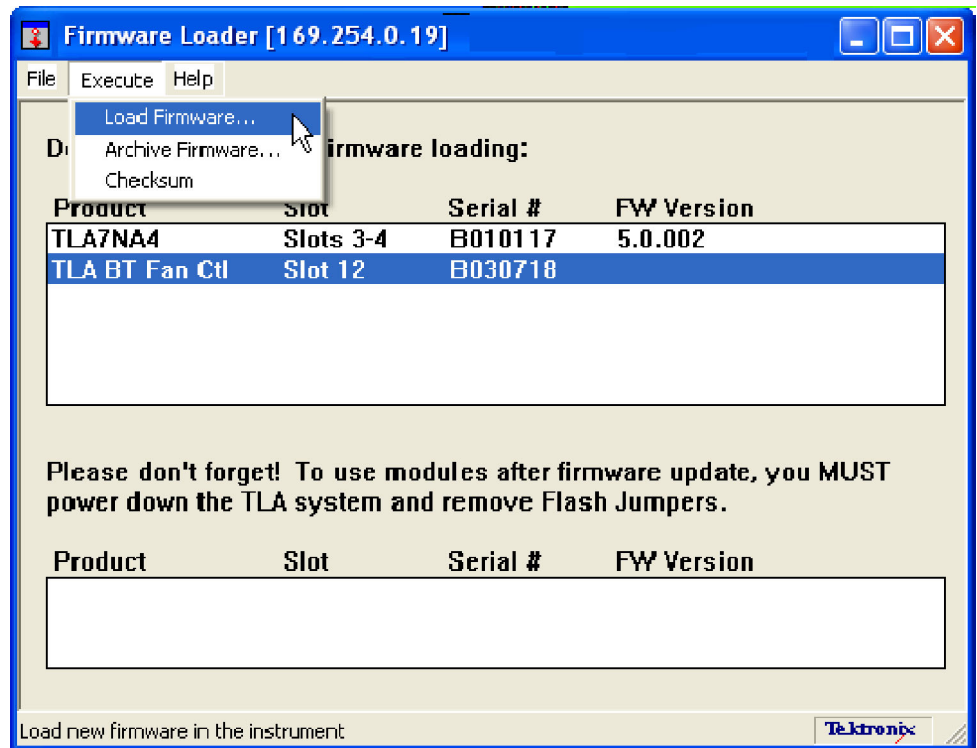

Figure 22: List of modules available for firmware update
8. When the search is finished, the Firmware Loader dialog box reappears with a list of devices. (See Figure 22 on page 23.)